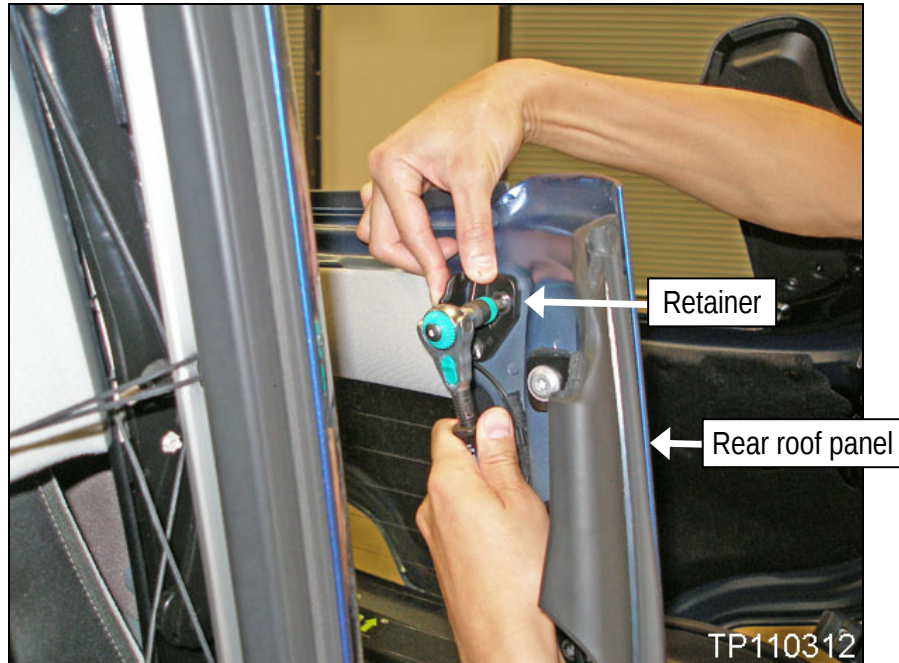

Figure 35f
c. Loosen the T-30 Torx screws for both rear roof panel retainers (see Figure 35f).